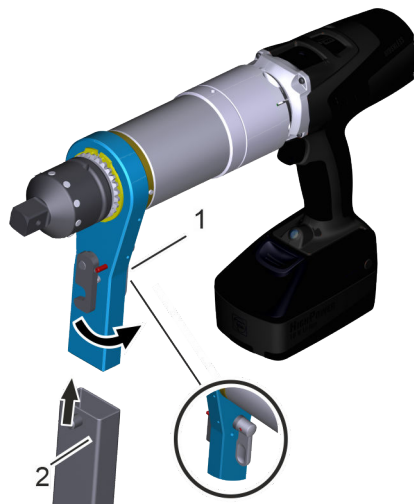

Fig. 33: Reaction arm
- 8.** → Turn the lever of the lock (Fig. 33/1).
- 9.** → Fully attach the middle part of the reaction arm (Fig. 33/2) and lock it.
⇒ The bolt (Fig. 33/1) is engaged correctly in the lock (Fig. 33/2).